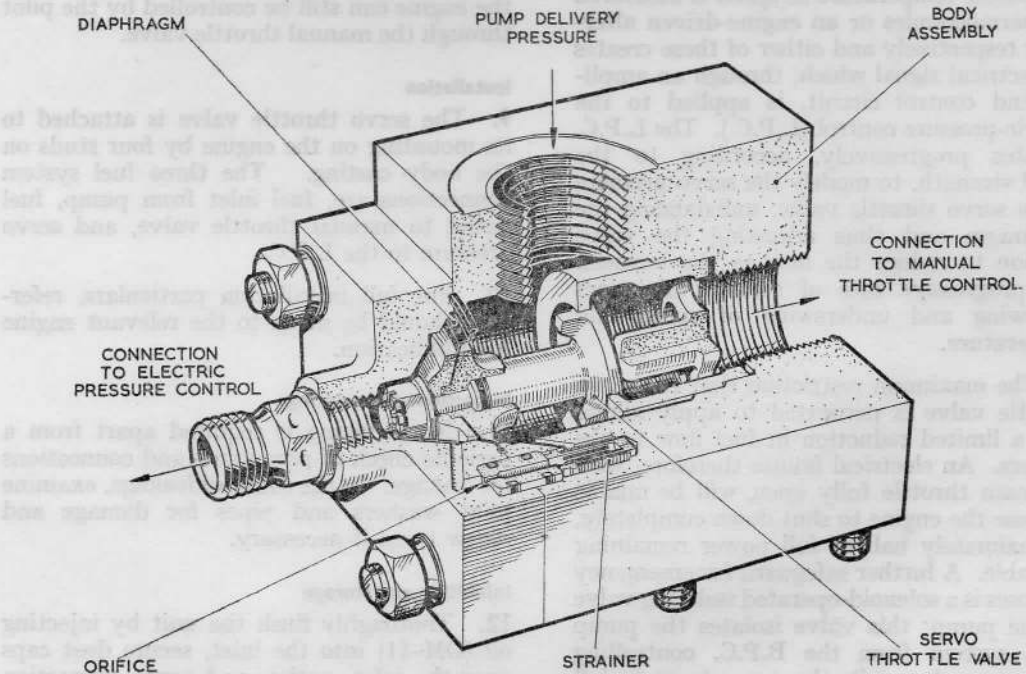

Fig. 1. Sectioned view of servo throttle valve
3. The servo throttle body (fig. 1) houses a valve plunger working in an orifice in the main fuel flow. A diaphragm attached to the